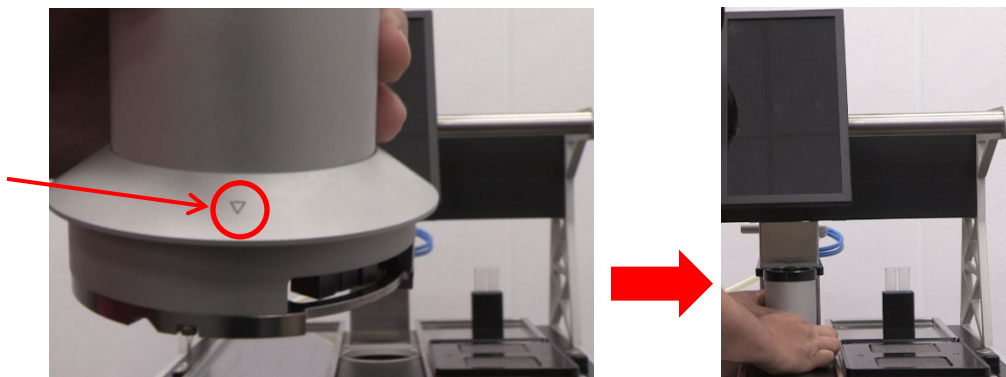

Figure 12: Insert Viscometer Cell Assembly
7. Insert the viscometer cell assembly. See Figure 12.
The home position of the UltraVIS is when the sample trays are in the load/unload position and the gantry is centered over the viscometer cell assembly. The **Home** button, located in the bottom center of the touchscreen, is used to return the instrument to the home position (see Figure 12). The beacon light will blink blue when the instrument needs homed. Once the instrument is homed and ready to run samples, the beacon light will turn white.